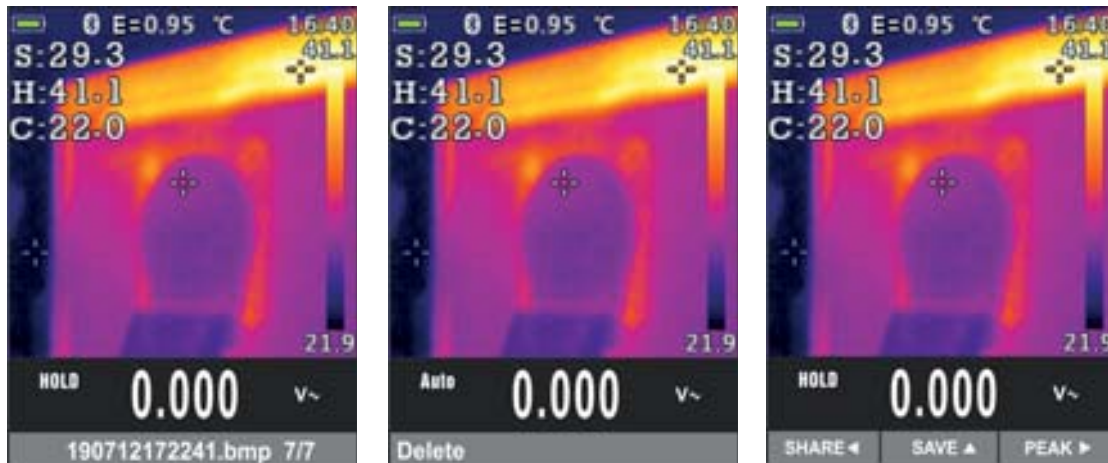

Fig. 46: Recalling and deleting IR images
11. Enter the General menu to display the saved result (see Fig. 46 – left side)